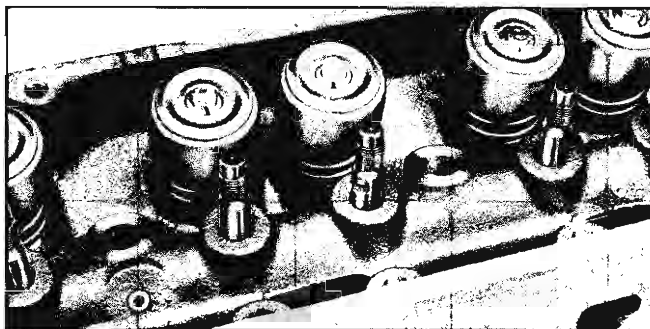

Fig. 6-32 Slots Filed in Rocker Arm Stud
2. With rocker arm removed, file two slots  $\frac{3}{32}$ " to  $\frac{1}{8}$ " deep on opposite sides of rocker arm stud (Fig. 6-32). Top of slots should be  $\frac{1}{4}$ " to  $\frac{3}{8}$ " below thread travel.
7. Remove plugs (Fig. 6-32) from ends of cylin-